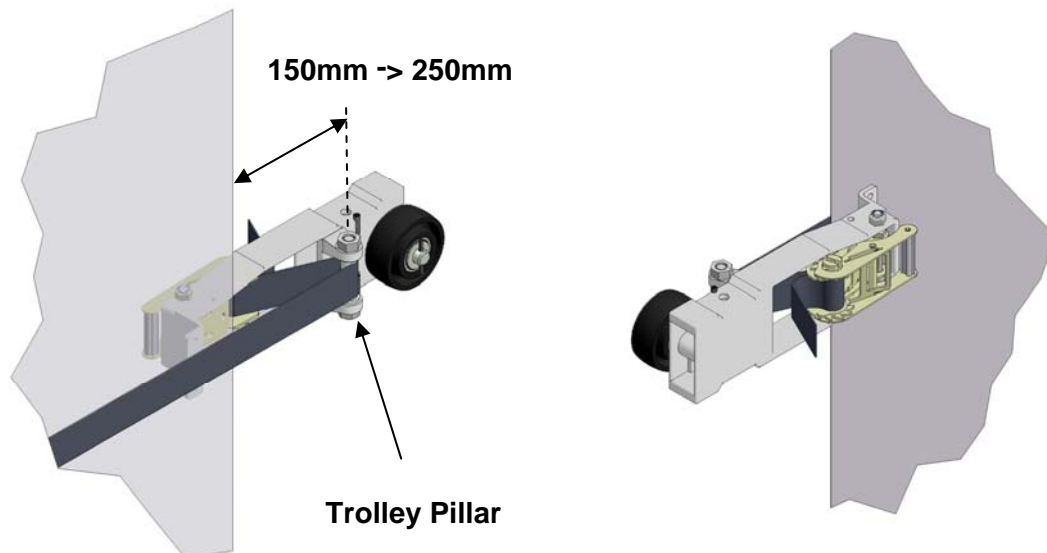

Figure 12
4.2 Lay the Screen Door across the opening in preparation to fasten the webbing straps to each Trolley. Working up from the bottom Trolley first, pass the webbing strap around the nylon bushes on the Trolley pillar and back towards ratchet tensioner. When the panel edge is approximately 150mm to 250mm from Trolley pillar feed webbing strap through slot in ratchet barrel and operate the handle (Figure 12). At this point do not let the Panel touch the pillar. With the exception of the upper strap (which is fixed to the Top Plates) repeat for all webbing straps, ensuring the Panel is central and applying equal tensioning throughout.